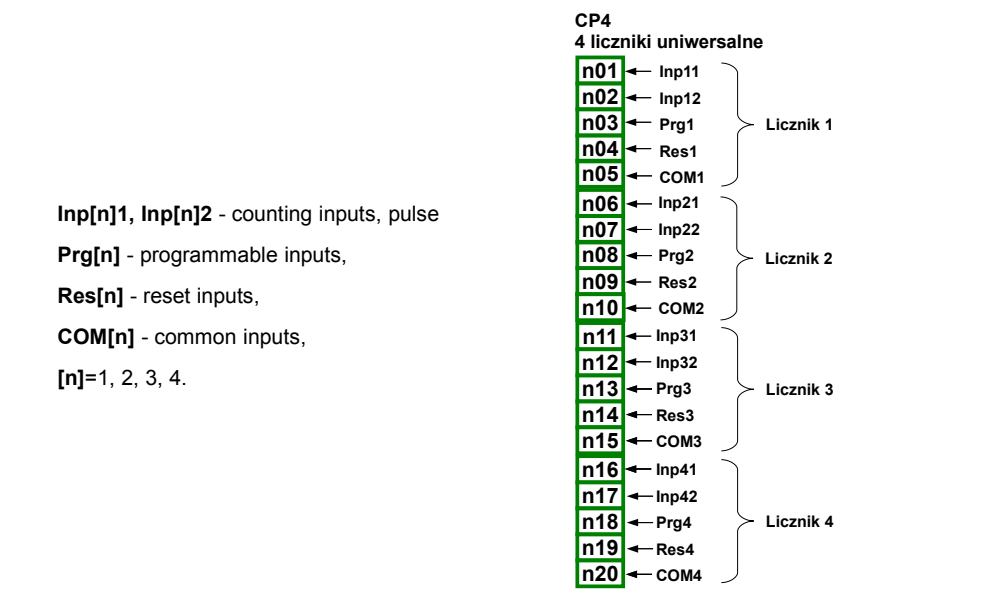

Fig. 8.8. Available optoisolated module of universal counters
**CP4** is module of universal 4-input counters (**Fig. 8.8**). Each counter has common terminal (**COM**) and is optically isolated from other counters and and **MultiCon ATG-500/600** GND signal as well.